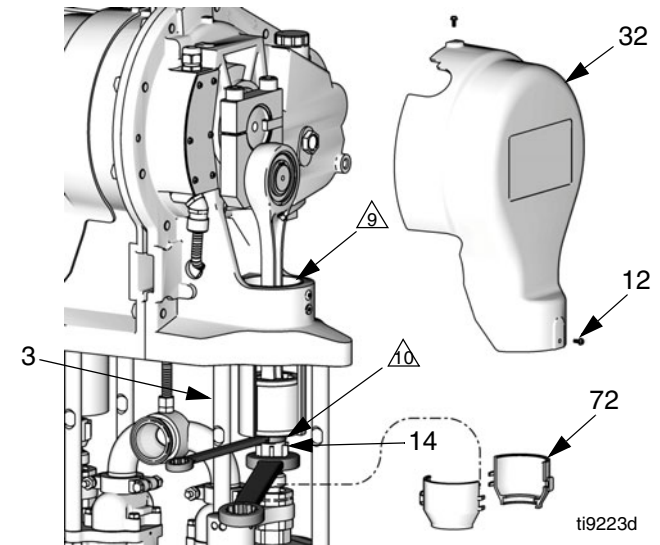

FIG. 1. Remove Coupling Nut
1. Jog the motor to bring the pump on the side being repaired to the bottom of its stroke. This provides access to the coupling nut (14).
4. Remove two screws (12) and the cover. FIG. 1 shows the cover (32) on the side opposite from the motor; the motor side cover is (21).
- 9 Place clean rag over slider cylinder (2).
- 10 Hold slider piston (9) flats with 3/4 in. wrench, and brace against tie rod (3).